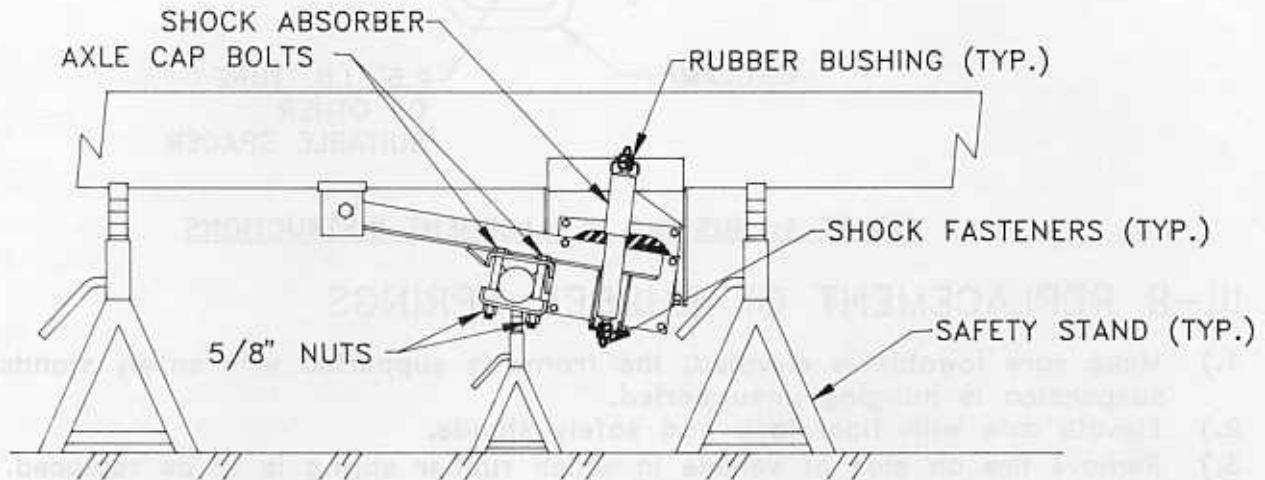

FIGURE 3: SHOCK ABSORBER AND AXLE CAP BOLT REPLACEMENT
- 3.) Loosen, then remove nuts from cap bolts (SEE FIGURE 3). Remove cap bolts.
- 1.) Remove shock fasteners and rubber bushings shown in Figure 3.